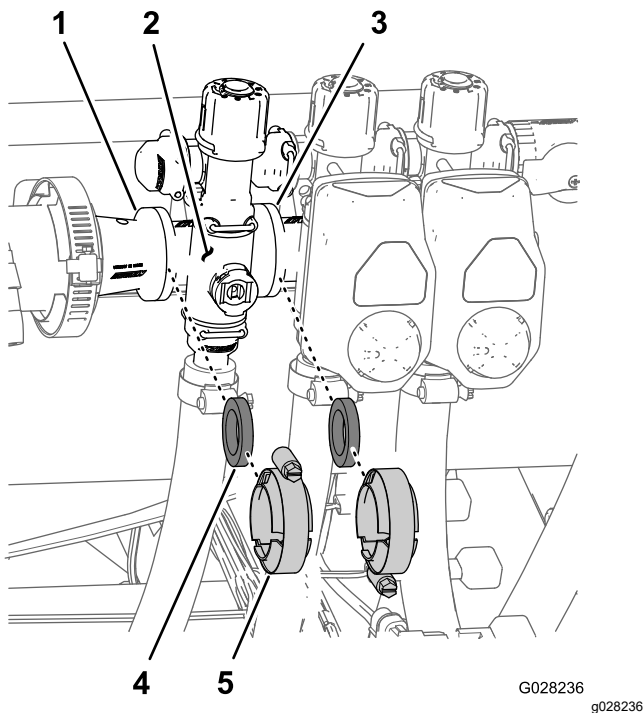

**Figure 72**
- Remove the flanged-head bolt and flanged locknut that secures the master-section valve to the valve mount and remove the valve manifold from the machine (Figure 72).